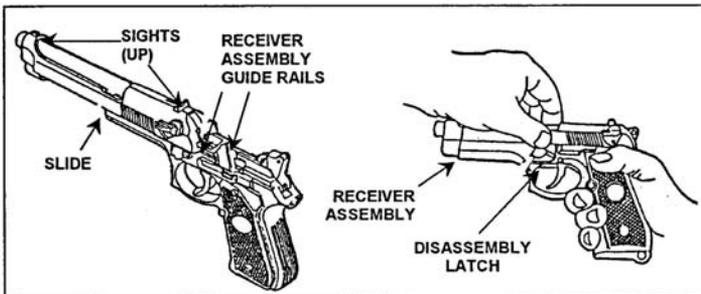

Figure 071-004-0001-8. Final assembly
g. Push until the rear of the slide is a short distance beyond the rear of the receiver assembly and hold. At the same time, rotate the disassembly latch lever upward. A click indicates a positive lock (figure 071-004-0001-8).
- (1) Insert the follower into the top coil of the magazine spring. Make sure the notches on the follower and magazine tube are on the same side.
- (2) Insert the magazine spring with the follower into the magazine tube.
- (3) Turn the magazine bottom up, with its backside against the palm of the hand. Attach and center the floor plate retainer on the bottom spring coil.